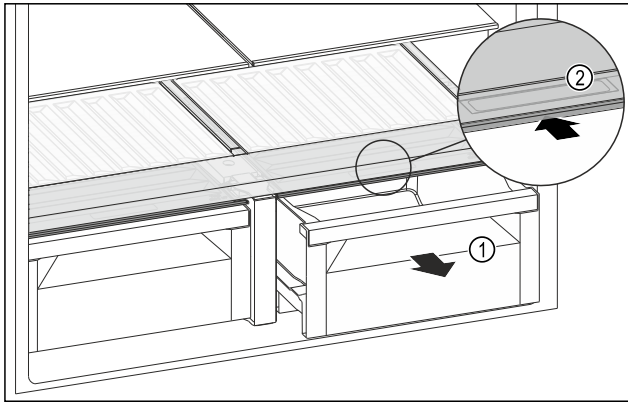

Fig. 128
- Pull out the drawer Fig. 128 (1).
- Grip the handle recess Fig. 128 (2) on the lid while pulling the lid backward at the same time.